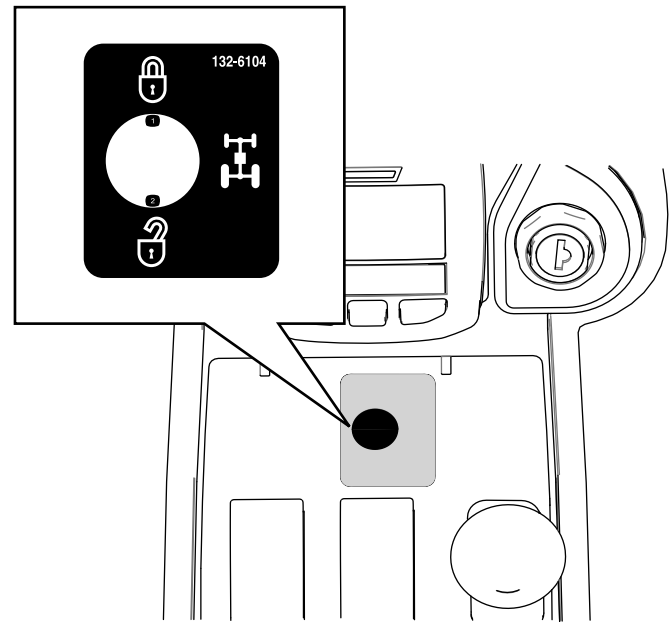

Figure 17
2. Place the 4WD function decal over the drilled hole (Figure 17).